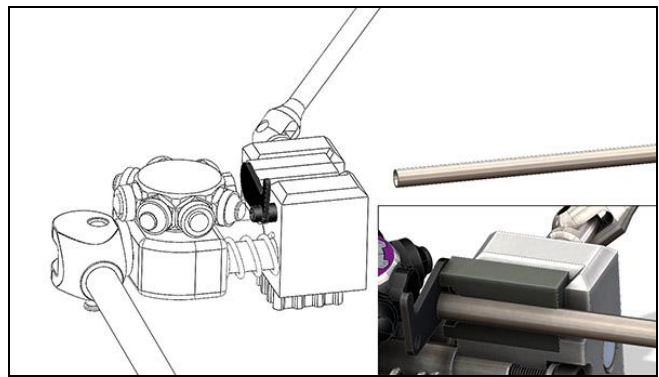

Figure 6
2. Position the setting tab over the die set hole and insert the tube until the tube is flush with the tab (**Figure 6**).